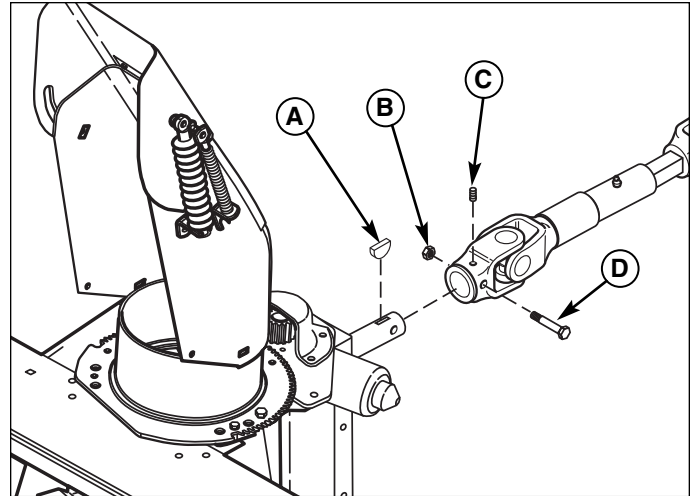

Figure 20. Install Drive Shaft
2. Install the key (A, Figure 20) into the input shaft key-way.
3. Attach the drive shaft to the input shaft (see Figure 20).
4. Secure the drive shaft using a 1/4-20 x 1-7/8" cap-screw (D, Figure 20) and center-lock nut (B).
5. Secure the key with an hex socket set screw (C, Figure 20).